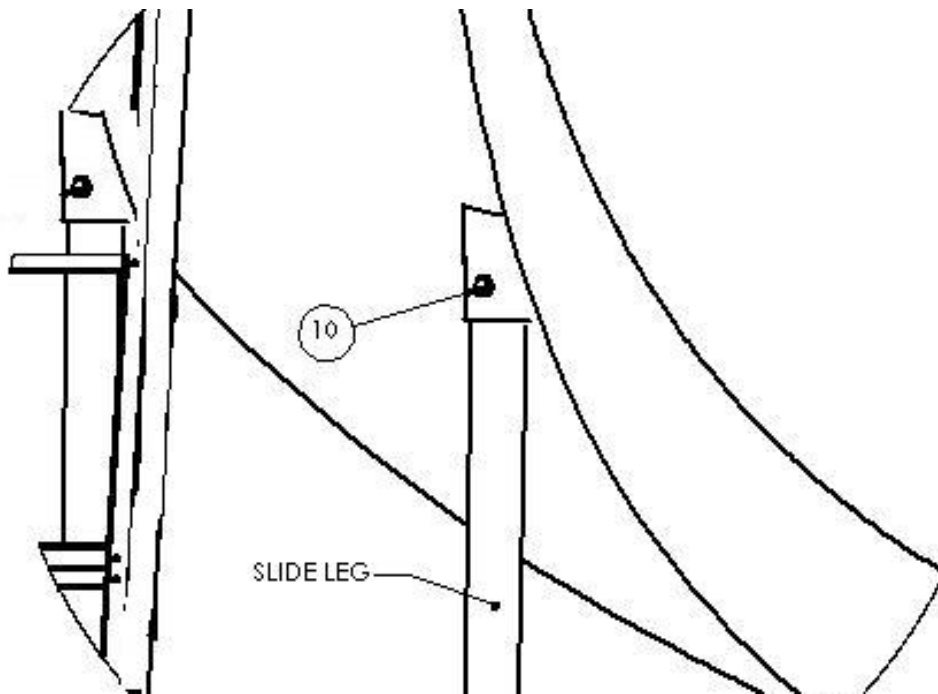

Figure 22
- 23)** If necessary the legs can be adjusted up and down within the leg sockets to help adjust for level. Once the slide is properly leveled the legs shall be permanently attached by drilling a 1/4" hole into each leg using the hole on the leg socket as a guide and fastening with a (#10) 5/16" Hex Head Washer Tek Head Screw. See Figure 22.